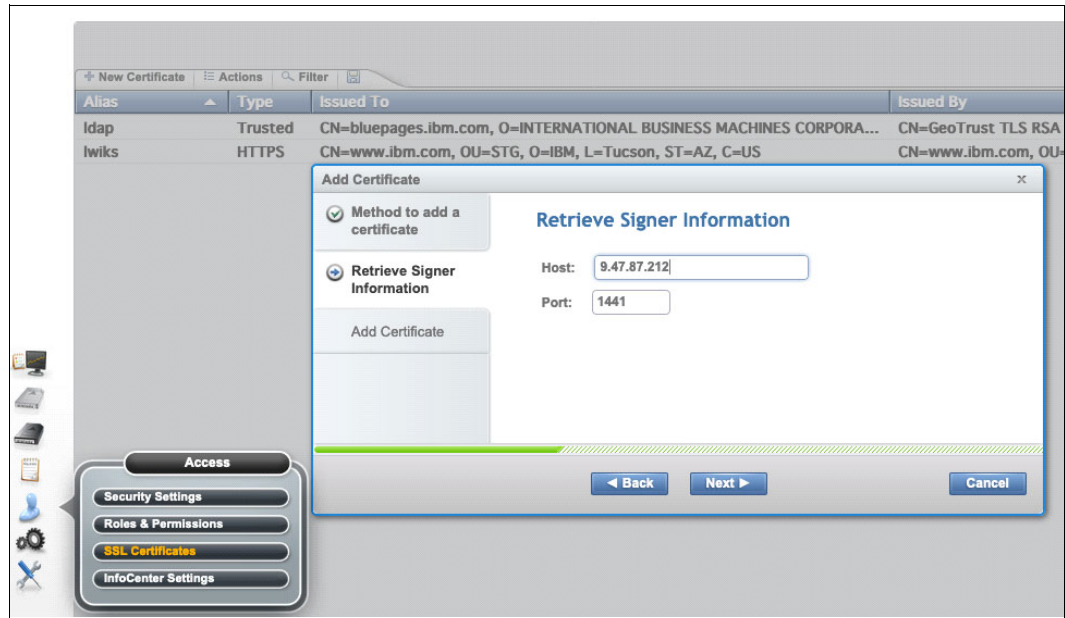

Figure J-9 Retrieving signer information
3. In the **Retrieve Signer Information** tab, enter the IP or DNS style name of the target IBM Security Guardium Key Lifecycle Manager server in the **Host** field, as shown in Figure J-9 on page 1027. Consult with your IBM Security Guardium Key Lifecycle Manager administrator to verify the port in which the target server accepts TLS/SSL traffic (the protocol that is used for this connection). Because different IBM Security Guardium Key Lifecycle Manager setups can be configured differently, the default value (port 443) might not be correct for many cases.